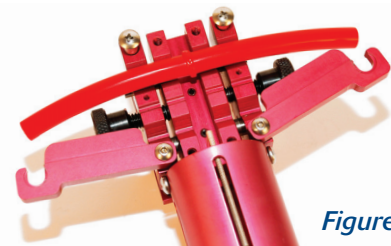

Figure 5
- Loosen the belt clamp lock screws and compress the springs to release the welded belt. The top bars of the belt clamp will swing away to allow the welded belt to be removed (see Figure 5).